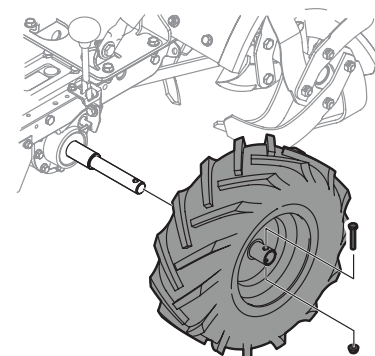

Figure 25
2. While not necessary, removing all tines from around the outside of the tine assembly will make accessing the tine assembly hardware easier. See A in Figure 25.
3. Remove the screw and lock nut that secure the tine assembly to the tine shaft. See B in Figure 25. These pieces of hardware run through the center of the tine assembly and the shaft. Pull the tine assembly off the shaft. If necessary, use a rubber mallet to tap the tine assembly outward.